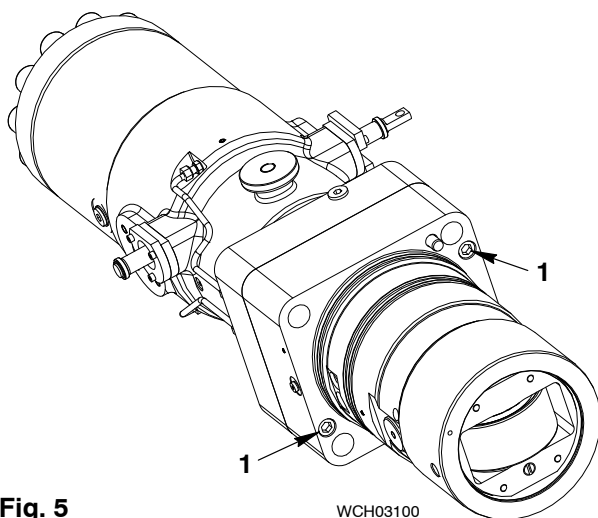
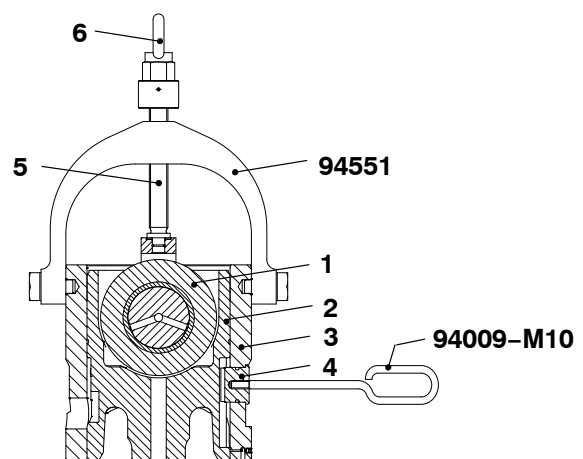

Fig. 5
Fig. 6
- 6) Loosen equally the two Allen screws (1, Fig. 5).
- 7) Remove the two Allen screws (1).
- 8) Apply Molykote G Rapid plus to lubricate the spindle (5, Fig. 6).
- 9) Attach the spindle press (94551) to the bottom housing (3).
- 10) Turn slowly clockwise the eye bolt (6) and the spindle (5) to push the roller (1) into the bottom housing.
- 11) Use the handle (94009 M10) to remove the guide pin (4).